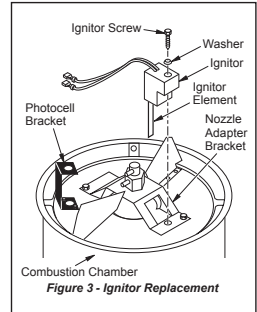

Figure 3 - Ignitor Replacement
- 5. Remove complete combustion chamber from the heater body.** Stand combustion chamber on end with nozzle adapter bracket on top (see Figure 3).
- 8. Being extremely careful,** guide the new ignitor through the opening in nozzle adapter bracket and seat the ignitor into position. Use caution not to strike ignitor element in any way. Attach ignitor to nozzle adapter bracket screw that was removed during disassembly using a 1/4" nut driver. (see Figure 3). Torque 8 to 15 in. lbs. **Do not over torque or immediate damage may occur.**